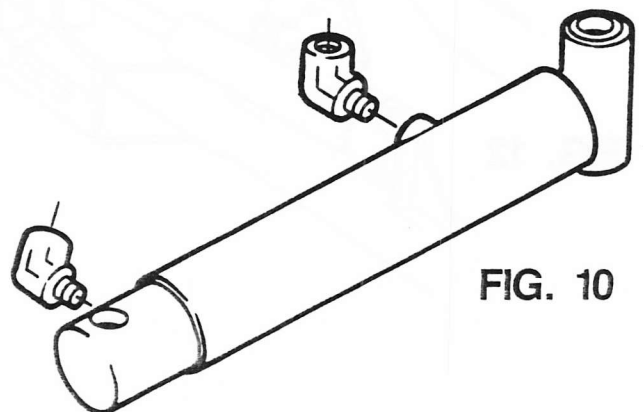

FIG. 10
5. Insert (2) $\frac{1}{4}$ x 90° steel st. elbows into the ports of the hydraulic angle cylinder. Use pipe compound on the threads. Both fittings must be positioned as shown in FIG. 10.